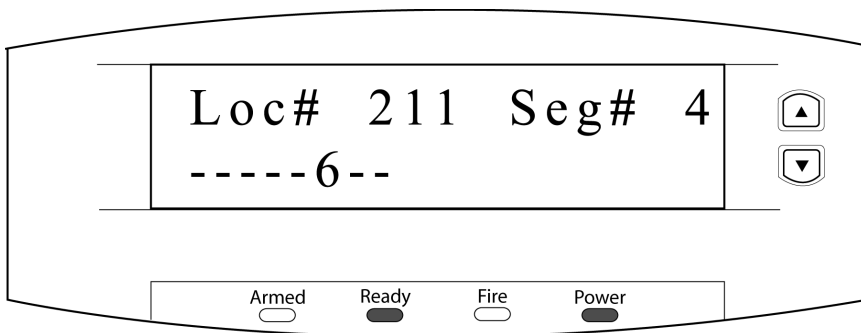

Figure 14: Alarm Panel - Location 211, Segment 4
7. Select the  key to save the selection and move to the next segment. For Location 211, Segment 4, only option number 6 should be on. Once completed, the LCD will look similar to Figure 14.